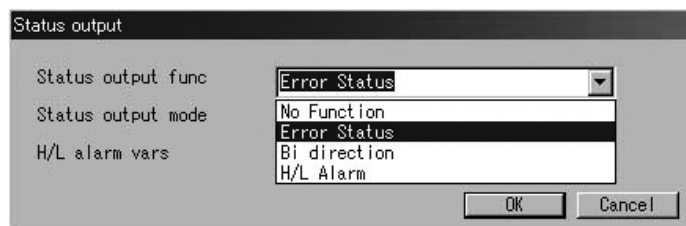

Fig.39
- ③ As shown in Fig. 39, select from the drop-down list the function to be set up for the status output by clicking on the arrow mark at right of "Status output func".